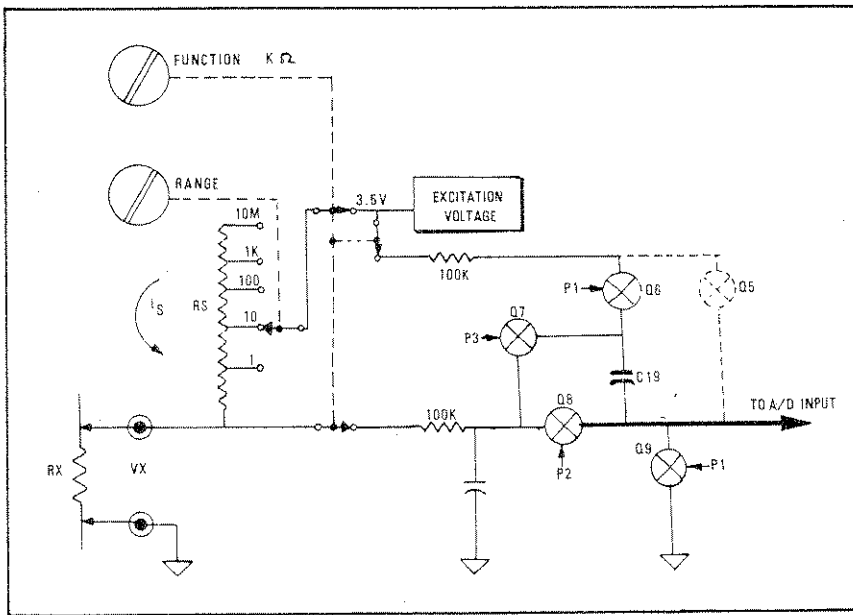

Fig. 3-3. Resistance Measurement Signal Conditioning
and driven by a source voltage so that the voltage input to the A/D for Phase 2 and the voltage input to the A/D for Phase 3 are derived from the action of the same current in the circuit. Because the Tri-Phasic technique digitizes the ratio of the two voltages (see paragraph 3.2.1), the exact value of the current is not significant in determining the results, only its stability over the measurement cycle. Figure 3-3 is a simplified schematic illustrating the Model 248 operation when in Resistance measurement mode.
b. As shown in Figure 3-3, selection of $k\Omega$ by the Function Switch applies a nominal 3.5 V as the reference voltage. The reference voltage is applied across the series-connected unknown resistance and the range-selected precision standard resistance. (The standard resistance is selected from the voltage-divider precision resistor network described previously in paragraph 3.3.1.) The voltages for Phase 2 and Phase 3 are generated by the current, I_S , whose value is determined by the series combination of the two resistances.